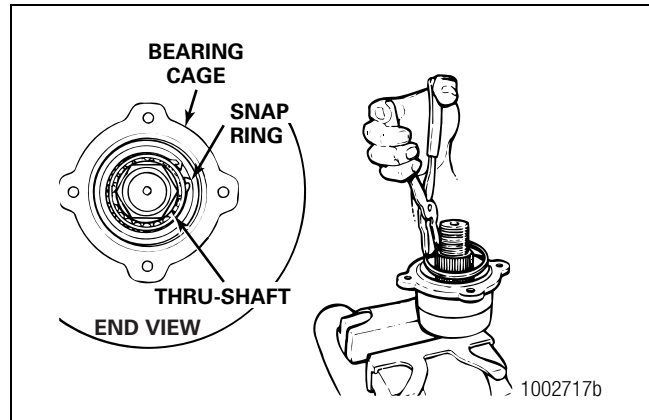

Figure 3.13
3. Remove the internal snap ring that holds the bearing cup in the output cage. Figure 3.13.